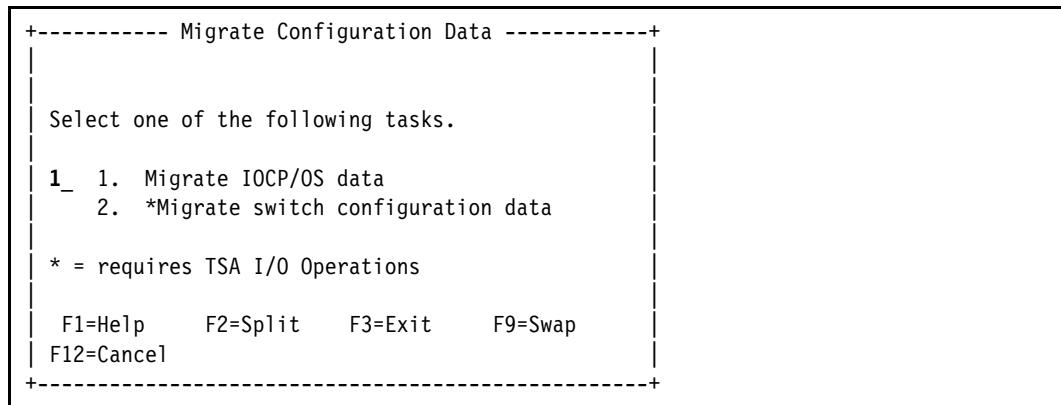

Figure 4-52 Migrate Configuration Data: Migrate IOCP/OS data.
- From the Migrate Configuration Data panel (Figure 4-52), select option 1. **Migrate IOCP/OS data** and press **Enter**.